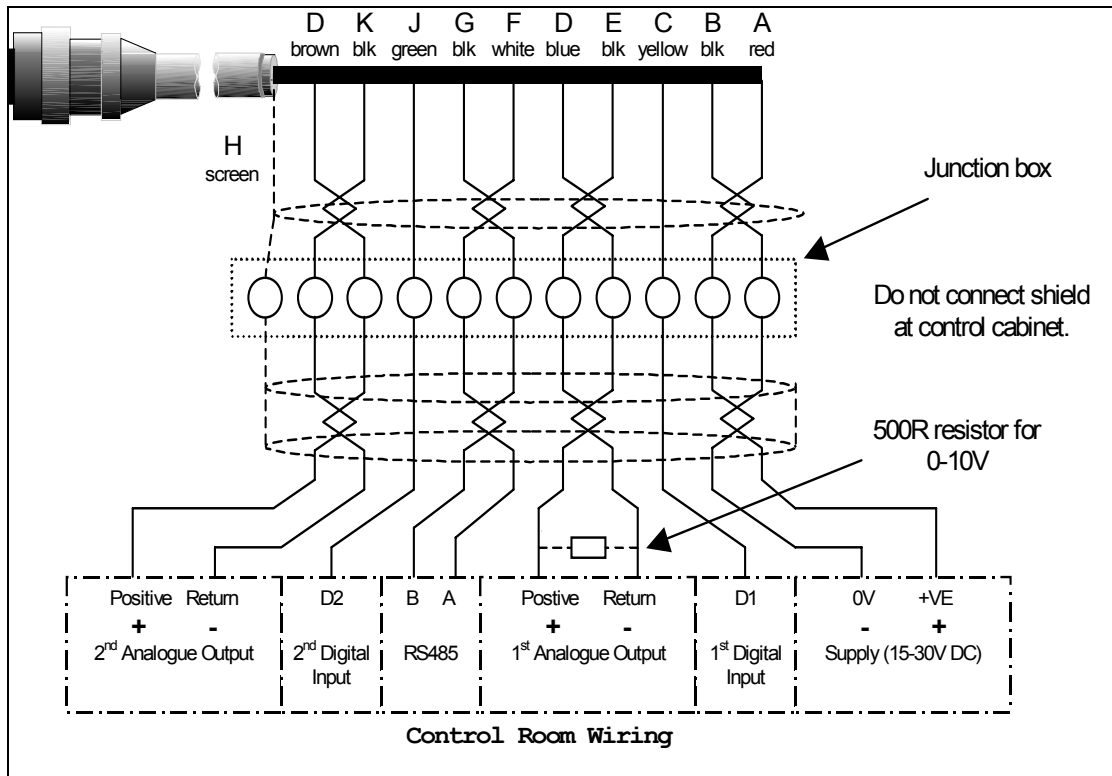

Figure 24 – Sensor cable (0090A) connection
- 0 – 20 mA This may be configured as a 0 – 10 V DC voltage output if a 500 ohm resistor is connected across the analogue output and return wires (see Figure 24)